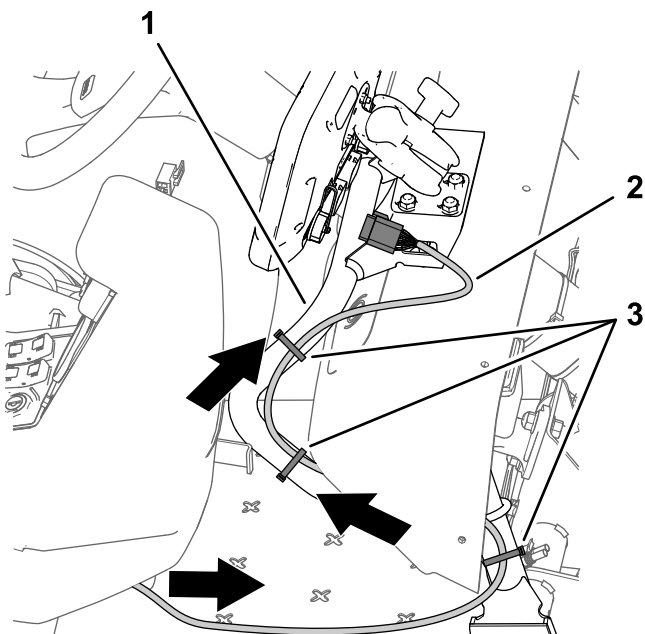

Figure 205
1. Route the 220 cm (86-5/8 inch) data-harness branch (the harness branch with the 26-socket connector) forward and under the dash panel (Figure 205).
2. Route the 220 cm (86-5/8 inch) data-harness branch along the support tube for the monitor (Figure 205)
4. Ensure that the 220 cm (86-5/8 inch) data-harness branch has enough slack to allow the sprayer operator to adjust the position of the monitor and secure the harness to the support tube for the monitor with cable ties as shown in Figure 205.